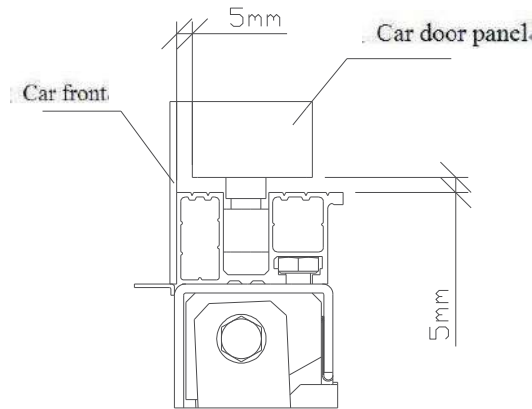

Figure 5-4-4 Adjustment requirements of car door and door panels
- c) Adjustment requirements for car door and door panels, refer to Figure 5-4-4, 5-4-5